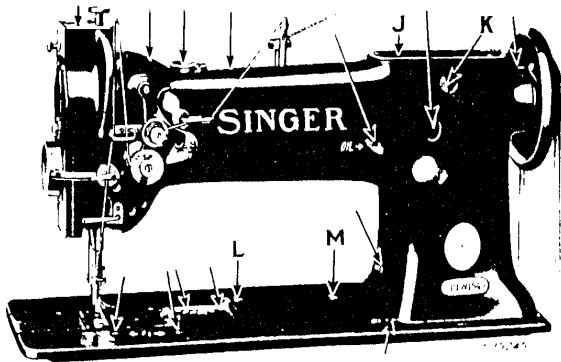
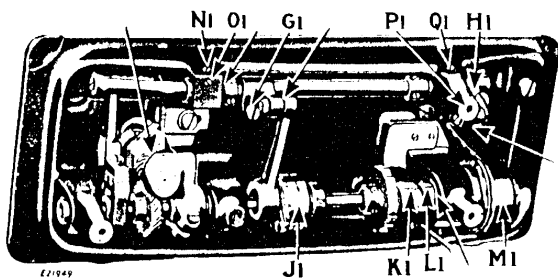

Fig. 2. Front of Machine Showing Oiling Points and Adjustments
Fig. 5. Base of Machine Showing Oiling Points and Adjustments
Oil should be applied at the places designated by unmarked arrows in Figs. 2 to 6. Swing back the top cover (J, Fig. 2) and oil the bearings which are thus uncovered, then replace the cover.
Turn the machine back on its hinges and apply the oil at the places designated by unlettered arrows as shown in Fig. 5, and all other places where there are parts in movable contact, then bring the machine forward into place.
The number of stitches per inch is stamped on the stitch indicating disc (K, Fig. 2) located on the arm shaft.
To change the length of stitch, press down the plunger (L, Fig. 2) in the bed of the machine and at the same time turn the machine pulley slowly until the plunger enters a notch in the adjustable feed eccentric cam (J), Fig. 5). Still holding the plunger, turn the machine pulley forward or backward as required until the number of stitches per inch desired can be seen through the hole in the front of the arm (at K, Fig. 2), then release the plunger.